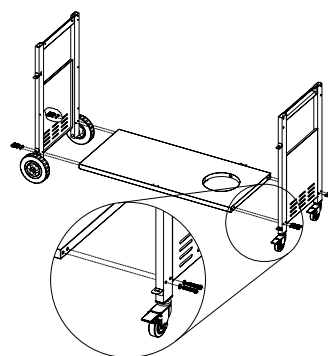

Figure 3
3. Assemble cart leg to bottom panel using (8) 1/4 x 1-1/2" Phillips head screw and (8) 1/4" lock washers. (Fig.3)